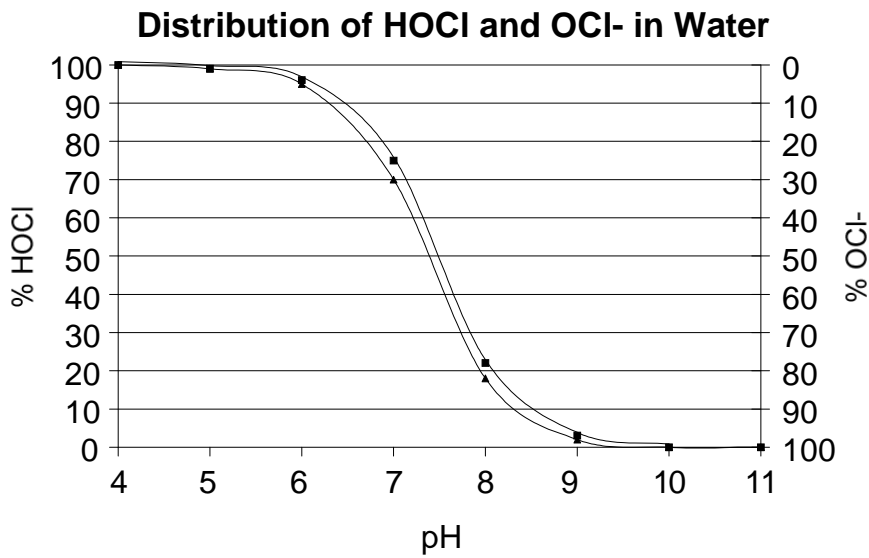

Figure 25.1 The Distribution of HOCl and OCl- in Water
**Display Slide 6 (Figure 25.1 on next page)**
- The normal pH of water supplies is within the range where both hypochlorous acid and hypochlorite ion exist as indicated in figure 25.1.